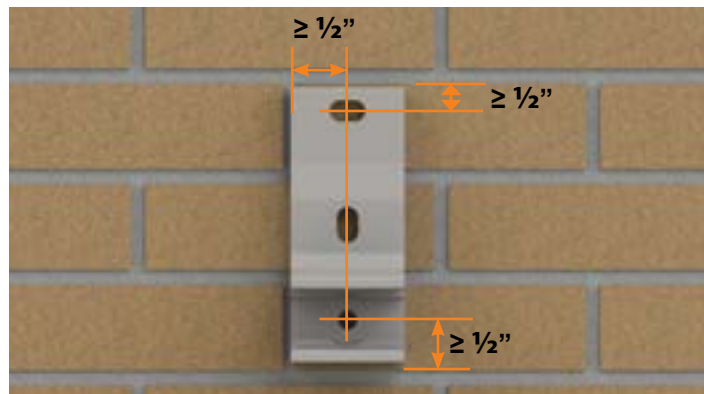

Fig.19
- When installing on brick surfaces, masonry fasteners must always be installed into brick and never mortar. Measure and check the intended location of the brackets against the bricks on the mounting surface and ensure no fasteners will fall within $\frac{1}{2}$ " of the edge of any brick (Fig. 19). Adjust the planned location of any mounting brackets accordingly.